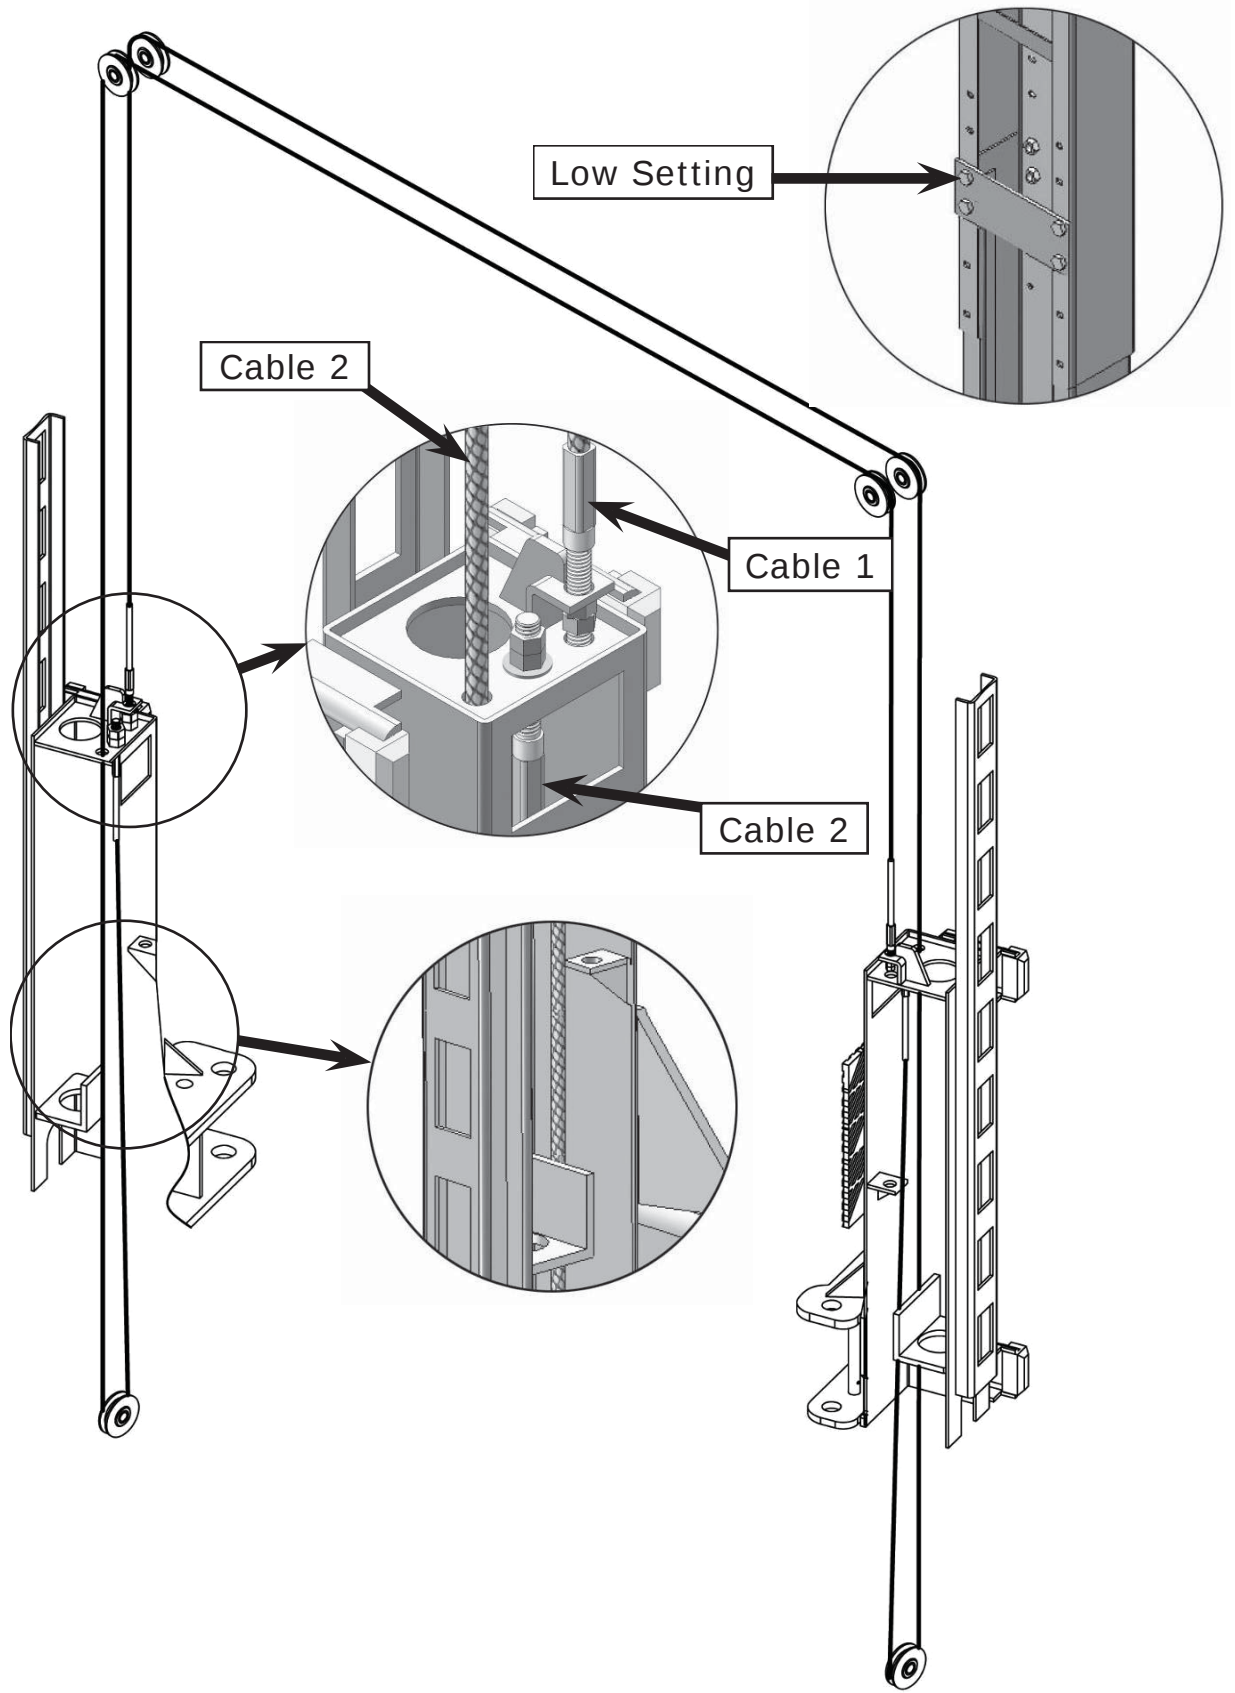

Fig. 29
2. **Low setting cable connection**, suitable for ceiling heights between 4200mm (165 3/8") to 4500mm (177 1/8") (**See Fig. 29**).